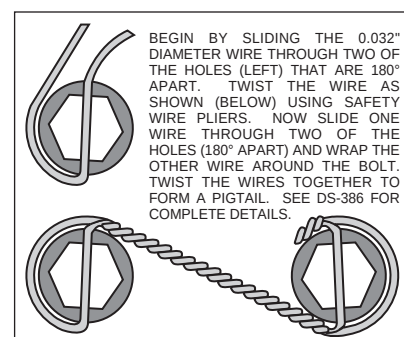

Figure 3. Safety Wire Diagram
- Apply red *Loctite*® 271 to bolt threads (2 and 4) before assembly of the caliper bracket (1) to backing plate face of spindle. Then install bolt (4) through caliper bracket (1), spindle face and the steering arm. Finger tighten the bolt (4) with lock nut (5). Install and finger tighten two bolts (2) with lock nuts (3). Torque two bolts (2) to 47 ft-lb. Torque bolt (4) to 120 ft-lb. **NOTE:** Be sure the heads of the caliper bracket (1) insert nuts are facing outward toward the wheel.
- Install five new wheel studs (6) into the hub (7). Torque to 77 ft-lb. **NOTE:** There are two five lug patterns in the hub (5 x 4.00 and 5 x 4.50). Make sure of the correct hole pattern for the correct wheel application before installing studs into hub.
- Pack the large inner bearing cone (8) with high temperature disc brake bearing grease (available from your local auto parts store) and install into the backside of the hub (7).
- Install the grease seal (9) by pressing into the backside of the hub (7).
- Attach rotor adapter (10) to rotor (11) using six bolts (12). Torque bolts (12) to 180 in-lb. Safety wire bolts (12) using standard 0.032 inch diameter stainless steel safety wire as shown in Figure 3. Please refer to Wilwood's data sheet DS-386 (available at www.wilwood.com/pdf/ds386.pdf) for complete safety wire installation instructions. **NOTE:** The flat side of the rotor (11) lugs face toward the rotor adapter (10) with the dished side of the rotor adapter (10) facing away from the rotor (11).
- Mount the adapter/rotor assembly (10 and 11) to the hub (7) using five bolts (13). Torque bolts (13) to 22 ft-lb. Safety wire bolts (13).
- Pack the small outer bearing cone (14) with high temperature disc brake bearing grease. Lightly coat the spindle bearing surfaces with bearing grease. Slide the hub/rotor assembly (7 and 11) with outer bearing cone (14) onto the spindle. Secure using spindle washer (15), existing adjusting nut and nut locking device.